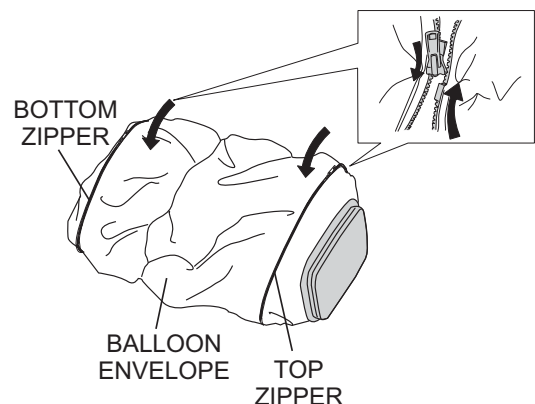

Figure 41. Zipping the Balloon Envelope
4. Zip up the zipper (Figure 41) at the top and bottom of the balloon envelope (cover).